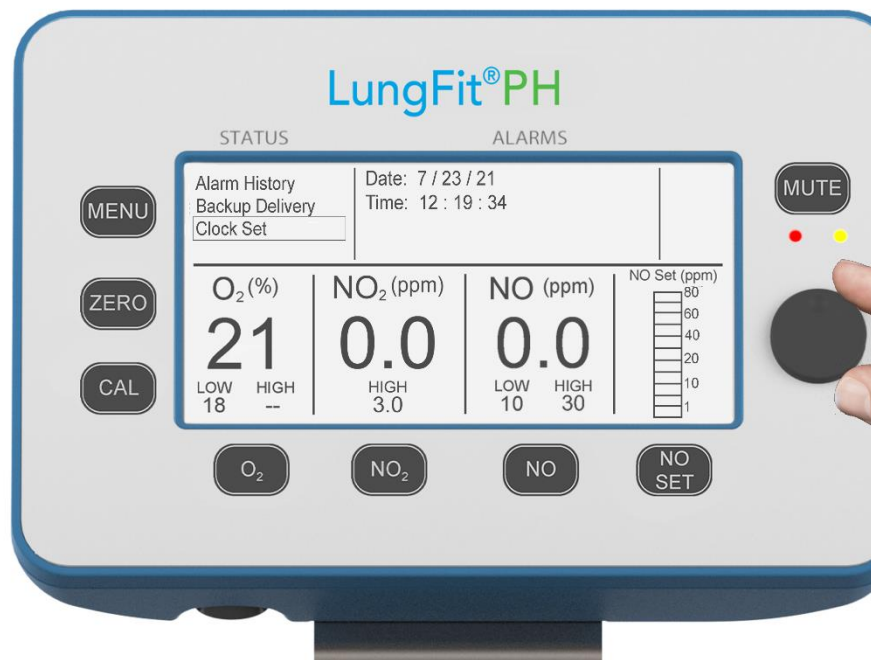

Figure 33: Clock Set Screen
- Set NO concentration on LungFit PH System to zero (0)
- Note that Filter Time will not decrease when NO is set to zero (0) ppm.
- Use control wheel to select **Clock Set**, indicated by a box surrounding the text (*Figure 33*)